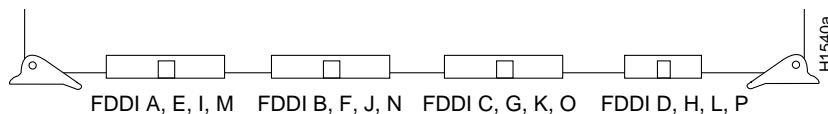
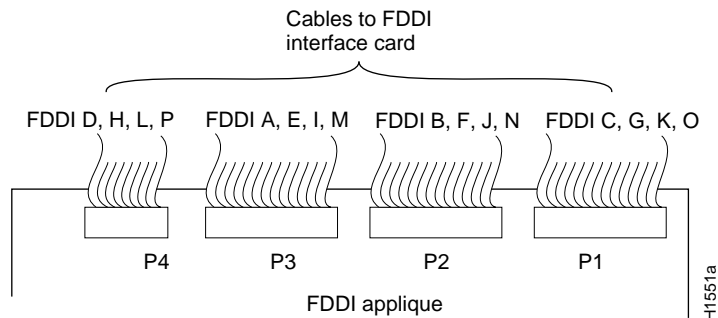

Figure 12 Orientation of the FDDI Connectors on the FCI Card
Figure 13 Orientation of the Ribbon Cables on the FDDI Applique
The four internal ribbon cables are fixed to the applique and must be routed and attached to ports on the FCI card. The ribbon cables are labeled alphabetically depending upon the number of appliques you will install. The FCI card connectors are shown in Figure 12, and the ribbon cable connectors are listed in Table 4. The ribbon cable orientation and labeling for the FDDI applique is shown in Figure 13. The ribbon cables from your FDDI applique are labeled *FDDI A* through *D*, *E* through *H*, *I* through *L*, or *M* through *P* for the first through the fourth appliques, respectively.
- Step 1** Connect the applique ribbon cable *P3 A, E, I* or *M* (the second cable from the left in Figure 13) to the 26-pin connector *FDDI A, E, I*, or *M* on the far-left front edge of the FCI card shown in Figure 12.
- Step 2** Connect the applique ribbon cable *P2 B, F, J*, or *N* (the second cable from the right in Figure 13) to the 26-pin connector labeled *FDDI B, F, J*, or *N* in Figure 12.
- Step 3** Connect the applique ribbon cable *P1 C, G, K*, or *O* (the far-right cable in Figure 13) to the 26-pin connector labeled *FDDI C, G, K*, or *O* in Figure 12.
- Step 4** Connect the applique ribbon cable *P4 D, H, L*, or *P* (the far-left cable in Figure 13) to the far-right (16-pin) connector labeled *FDDI D, H, L*, or *P* in Figure 12.